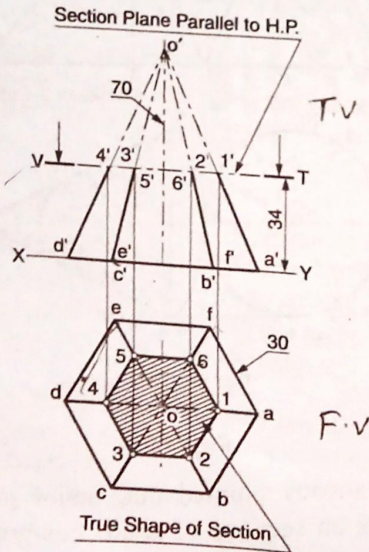

Fig. 14.2. First Angle Projection
The projection of the section obtained on a plane parallel to the section plane, which is same as the section exposed by the section plane, is called the *true section*. If the section plane be parallel to the HP or ground plane, the true shape of the section is projected in sectional top view, Fig. 14.2. Whereas, the true shape of the section is shown in sectional front view when the section plane is parallel to the VP, Fig. 14.7.
**SOLUTION:** Refer Fig. 14.2.